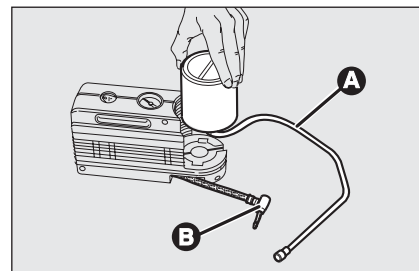

fig. 17
- ☐ disconnect connection **B**-fig. 17;